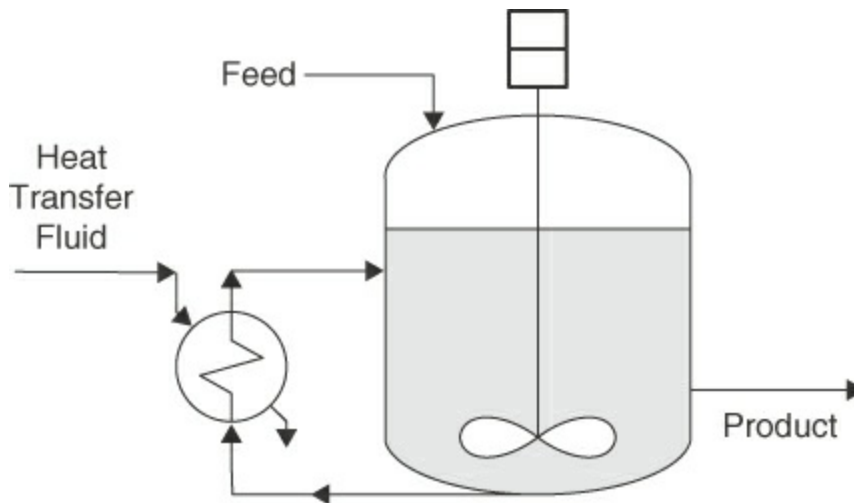

Figure 9.1 Schematic of a reactor
Consider the schematic of a reactor shown in Figure 9.1. If the reaction taking place in this reactor liberates thermal energy, the heat transfer fluid (e.g., cooling water) would remove the heat so that the reactor would operate at a desired temperature. Conversely, if the reaction consumes thermal energy, the heat transfer fluid (e.g., steam) would transfer heat to maintain the desired operating temperature. The material that follows demonstrates how to apply energy balances for systems that involve chemical reaction, such as the reactor shown in Figure 9.1. As you will also observe, chemical reactions usually have a dominant effect on the energy balance for a system.
2. Show that for the process in Figure 9.1, the general energy balance reduces to $Q = \Delta H$. What assumptions do you have to make?